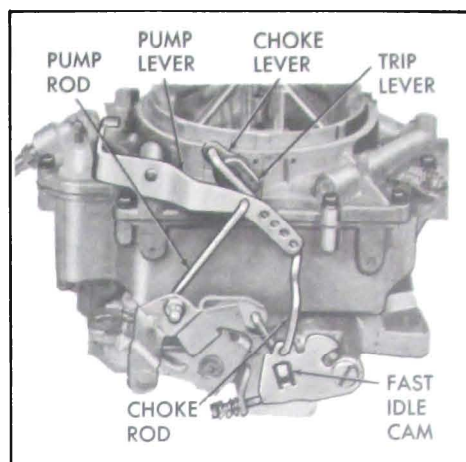

Figure 3-50—Exterior Linkage-300 Engine
1. Remove spring clip from upper end of intermediate choke rod and disengage rod from choke shaft lever. See Figure 3-50.
3. Remove choke trip lever and attaching screw. Disengage choke lever and collar assembly from choke shaft and disengage lower end of choke rod from fast idle cam. Then remove choke lever and collar, and choke rod as an assembly. See Figure 3-50.
23. Install choke rod, and choke lever and collar assembly. Install choke trip lever on end of choke shaft with "RP" out and tighten attaching screw. See Figure 3-50.